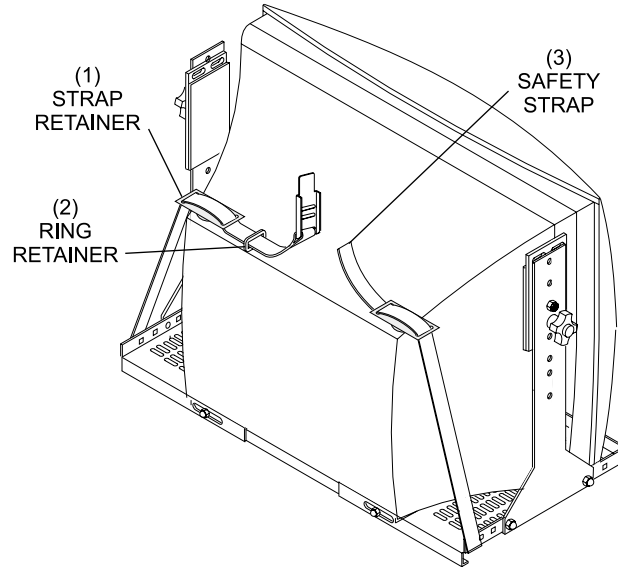

Figure 2. Wrap Strap Around Monitor
2. Thread safety strap through previously installed strap retainers. Refer to *Figure 2*.